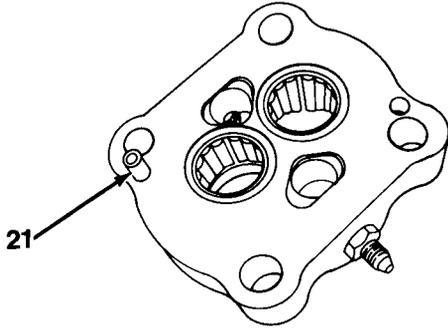

Figure 16-11
6. Install four dowel pins (21, Figure 16-11), if removed.